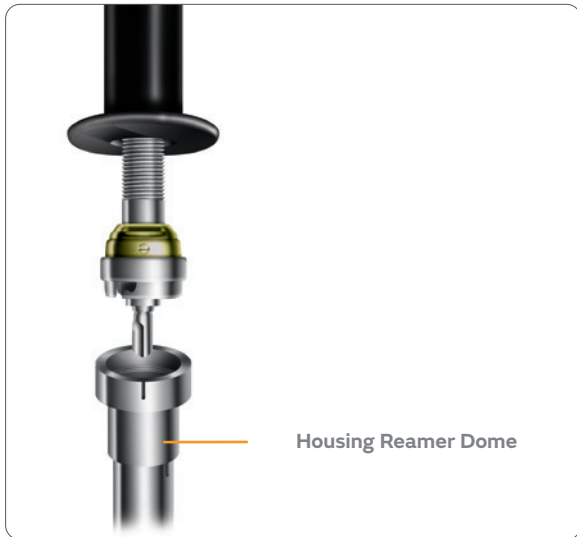

Figure 51
3. Attach the Housing Reamer Dome and the PS Reamer Sleeve to the Patellar Reamer Shaft (**Figure 51**).